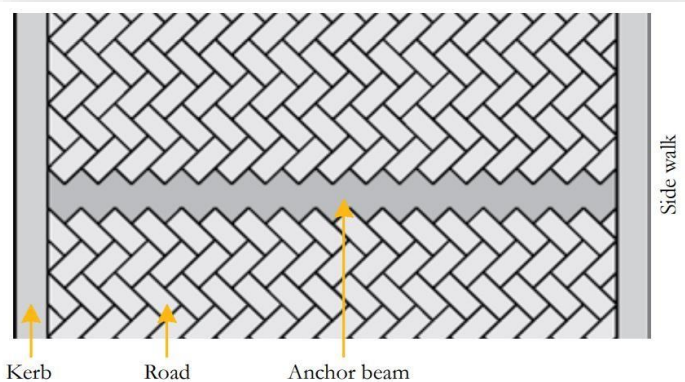

Figure 4 – Herringbone 45° to the kerbing
- Blocks should be laid in herringbone pattern at 45° to the kerbing. See figure 4. Not only does this practice encourage the flow of water to the side channels, but it maximizes the arching action of the paving against the kerb;